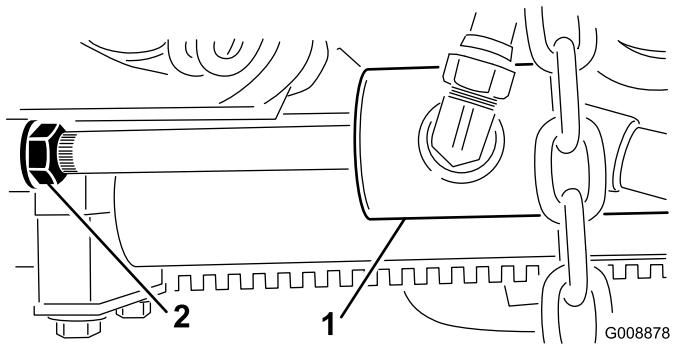

Figure 24
- B. Back off the jam nut on the cylinder (Figure 24).